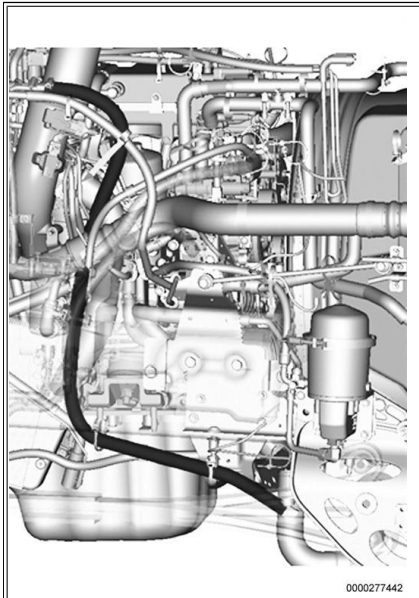

Figure 14: Sleeper Heater Hose Existing Routing.
2. Remove sleeper heater hose from bottom radiator hose (Figure 14) .